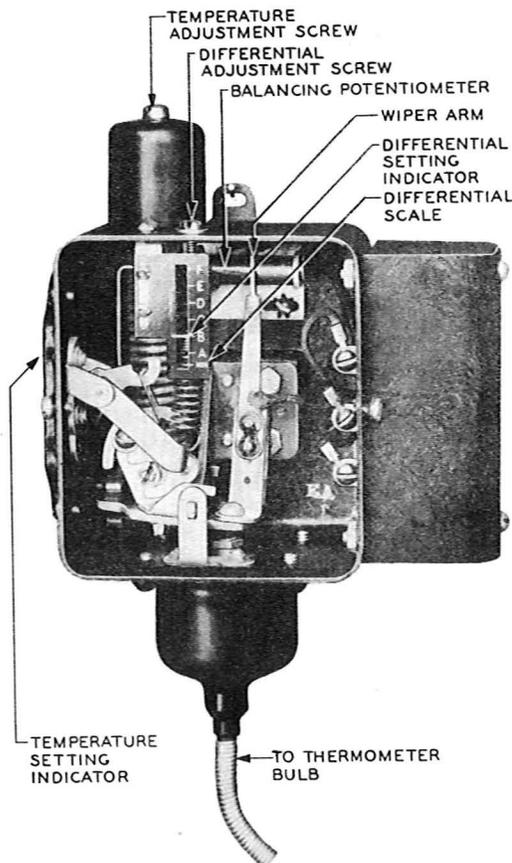

Fig. 6 - T915C-type Controller
(a) The wiper arm shall be at the right end of the active part of the balancing potentiometer (Fig. 6 shows this condition)
(1) By means of the temperature adjustment screw, bring the temperature setting indicator to the specified value on its scale. See Fig. 6. Start the engine and, as the water temperature rises, observe the action of the wiper arm. Adjust the temperature setting indicator further to secure the required operation. As the temperature continues to rise, observe the wiper and adjust the differential setting indicator, by means of the differential adjusting screw, to bring the wiper to the left end of the potentiometer when the temperature reaches the upper specified value.